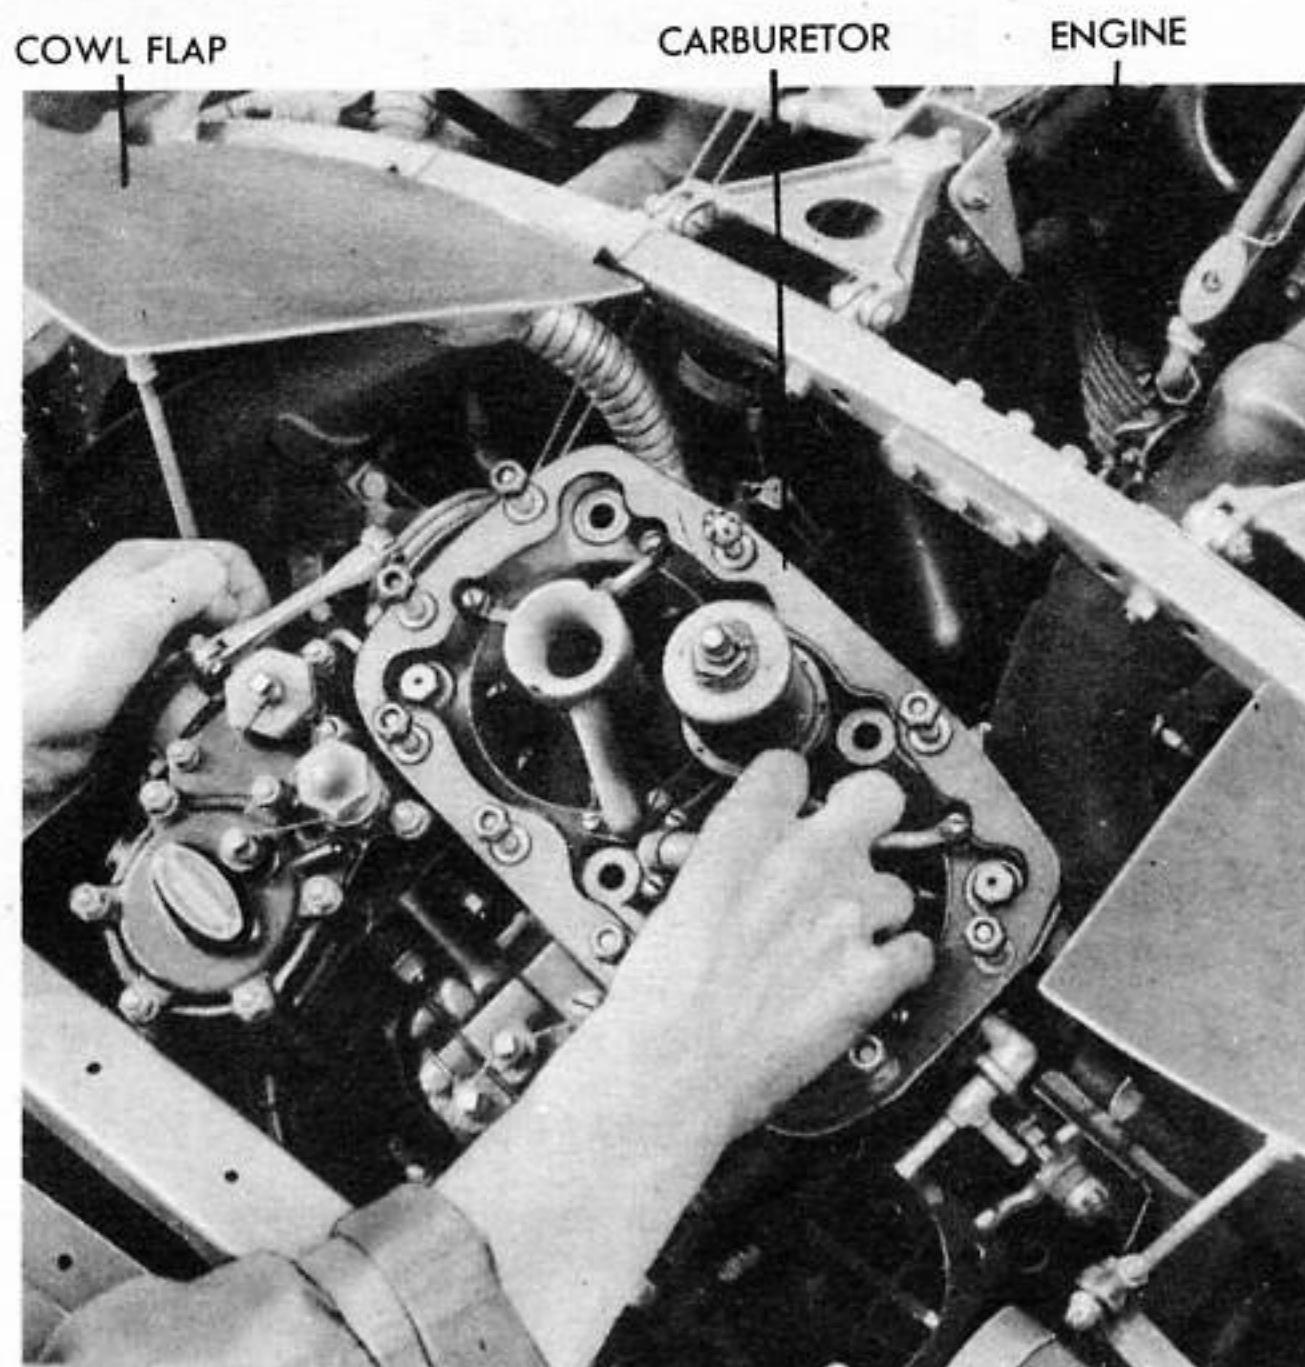

Figure 155 - REMOVING CARBURETOR
(19) DISASSEMBLY OF BLOWER DRAIN - Remove the cap screw and the small parts will automatically become separated. Slush in gasoline or an approved solvent.
(20) REMOVAL OF CARBURETOR. (See figure 155.)
(1) INSTALLATION OF CARBURETOR. (See figure 155.)